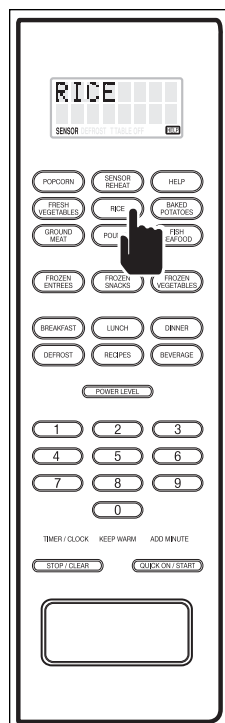

Figure 3-60.
1. Press the desired Sensor Cooking Mode key. For example, press the RICE key and “RICE - PRESS START” flashes on the display (See Figure 3-60).